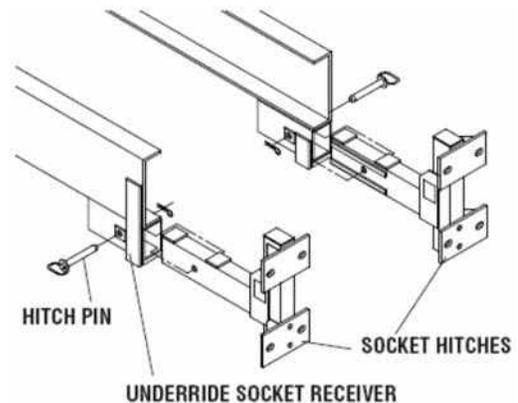
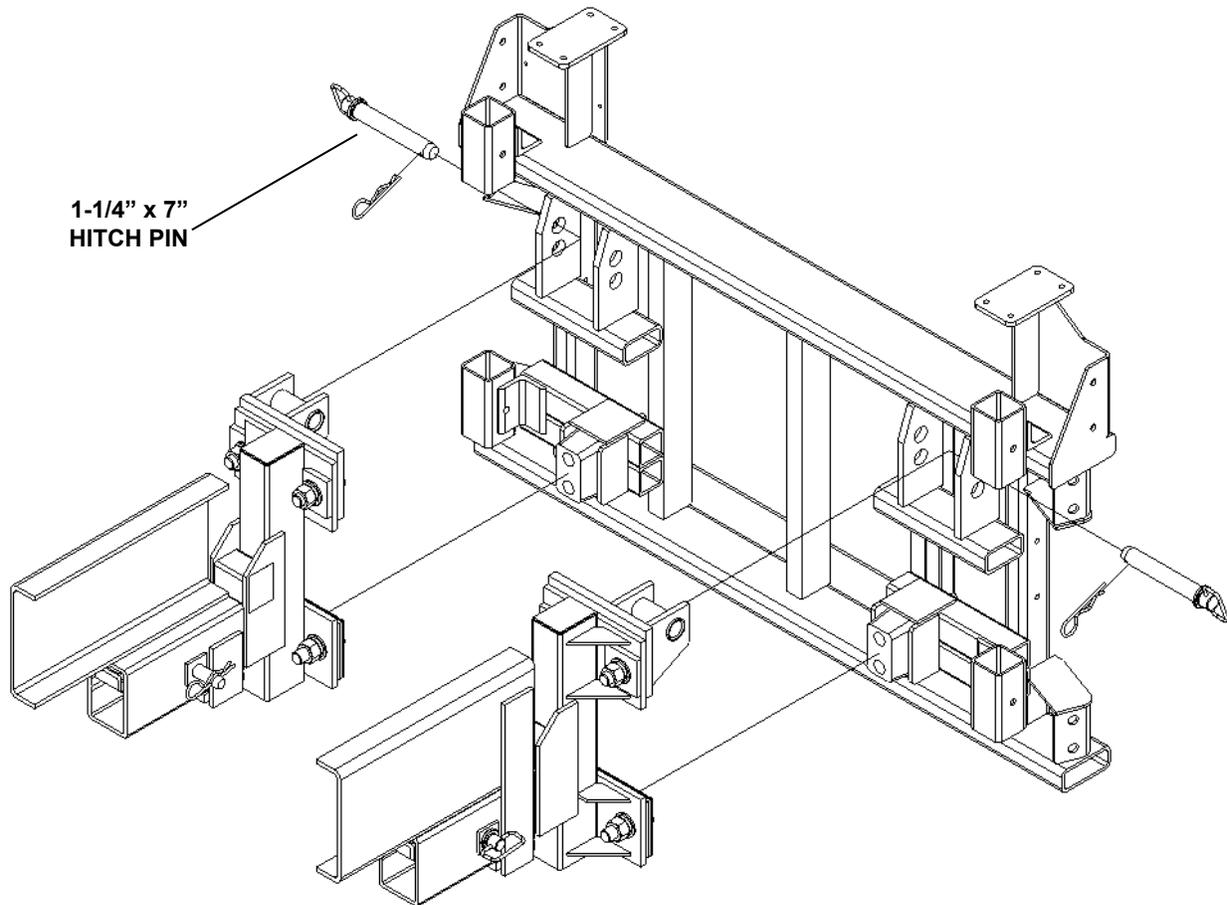

Figure 21
Figure 22
- E. Remove the Socket Hitches from the Underride Socket Receivers by removing both 1 x 6 3/4" hitch pins and retainer pins (Figure 21). (If the alignment is off, making removal difficult, it may be necessary to adjust Jacks or temporarily disengage the TMA from the Socket Hitches. This can be done by removing the two (2) 1 1/4 x 7" Hitch Pins and Retainer Pins as shown in Figure 22.) Loosen the hardware to ease interference and then retighten.
- B. Insert the Socket Hitches into the Underride Socket Receivers and pin them into place using 1 x 6-3/4" pin and retainer pin (Figure 21). If alignment is off, making the assembly difficult, it may be necessary to adjust Jacks or temporarily uncouple the Socket Hitches from the TMA. Ensure the retainer pins are inserted correctly and cannot fall out.